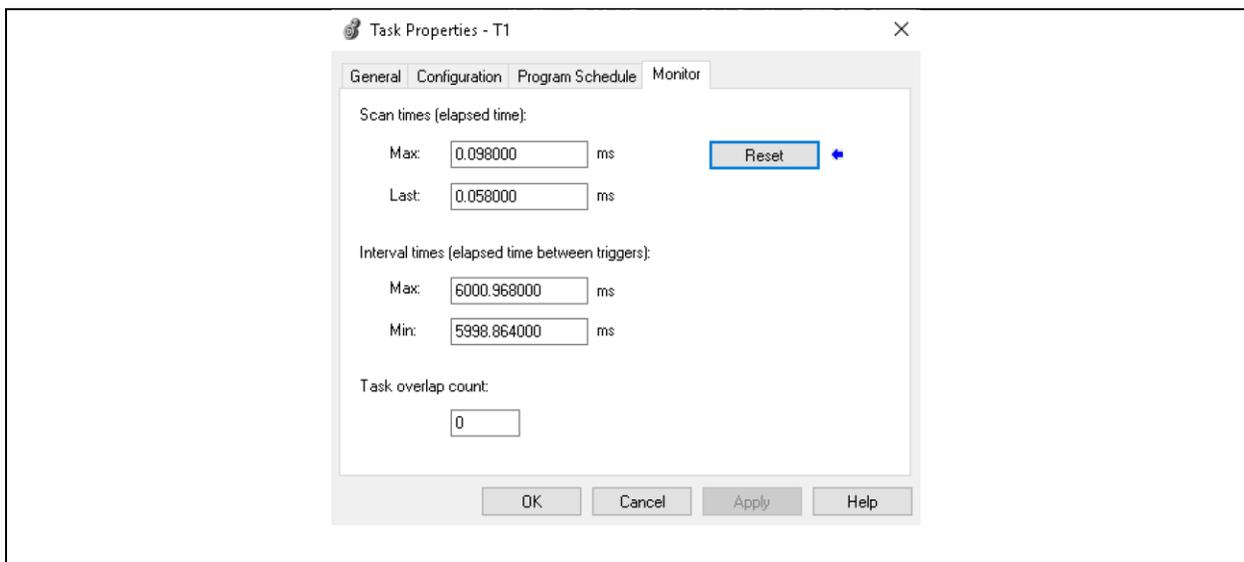

Figure 9. Monitoring the scan time for the T1 Task.
1. Go back to the Monitor tab within the T1 Task Properties (Figure 9)
It is important to understand the difference between the Period time in the Periodic Task setting and the scan time. The Periodic time is how often the processor scans the Periodic Task. The scan time is the amount of time it takes to scan the information in the Routines (in this case it is ladder logic). If by chance the scan time takes longer than the Periodic time, a Task overlap will occur (see Figure 9).